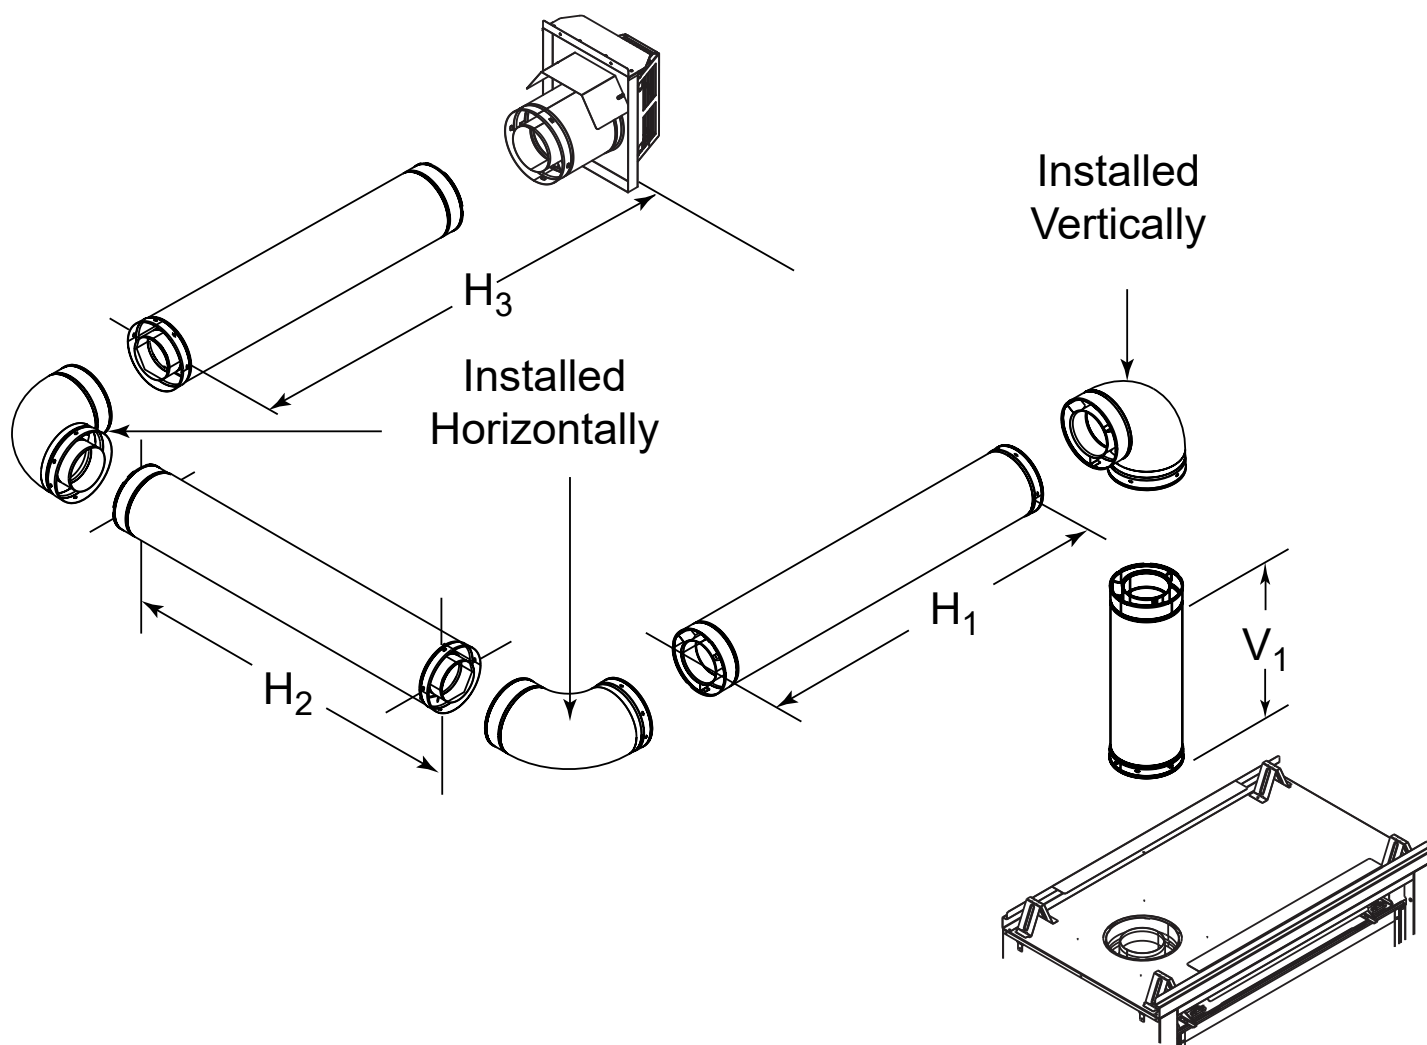

Figure 4.15
- A maximum of three 90° elbows (or six 45° elbows) may be used in any vent configuration. Some elbows may be installed horizontally such as in Figure 4.15.